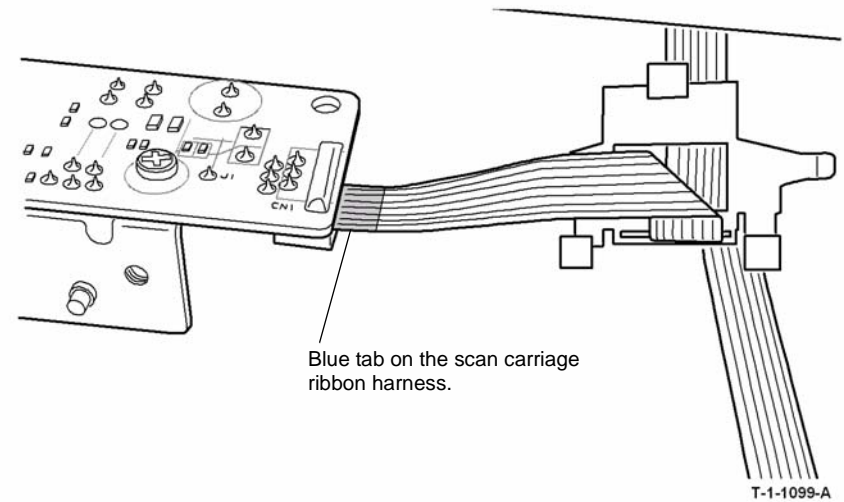

Figure 3 Ribbon harness
2. When re-connecting the ribbon harness, the blue band printed on the cable must face as shown in Figure 3.
3. Ensure the ribbon harness is folded correctly in the harness clamp, Figure 3. Engage two of the harness clamp clips in the carriage holes. Bend the clamp to engage the third clip.